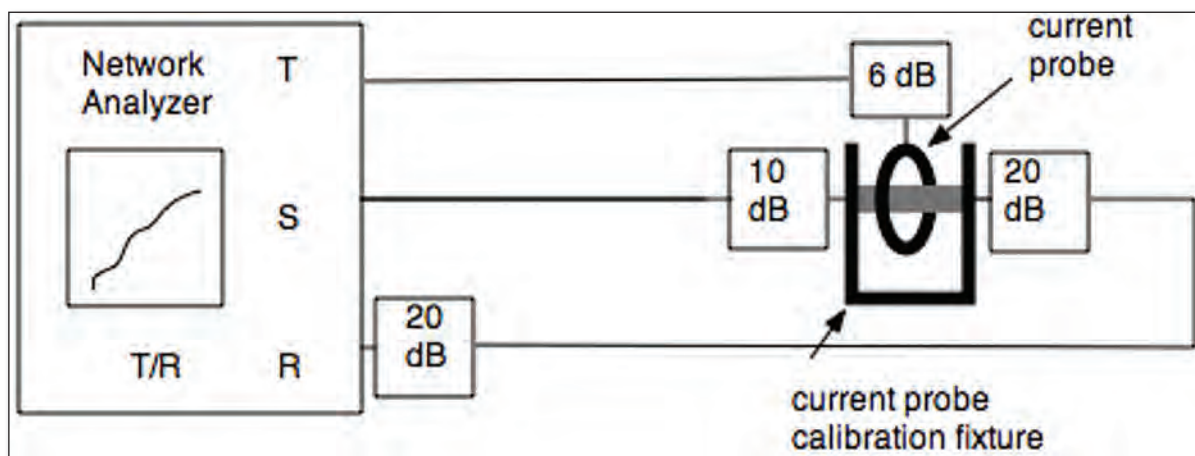

FIGURE 1: Current Probe Calibration - T/R ratio is the transfer impedance in dB Ohms.
Various models of current probes based on transformer action are used from frequencies as low as 1 Hz to at least 1 GHz. All these probes may be calibrated as per Figure 1.
In Figure 1, the network analyzer source drives current through the calibration fixture, which the current probe senses. The attenuator values (excepting the 10 dB pad on the input side of the calibration fixture) are so chosen that the ratio of the current probe output (T-port) to the reference (R) input is directly the transfer impedance in dB Ohms, with no data reduction required. They also perform impedance-matching functions reducing vswr-related errors at higher frequencies. The 10 dB pad is solely for impedance matching and vswr-reducing, and need not be included if unnecessary, typically at audio frequencies where extra signal level into the calibration fixture is required. Its value does not affect the transfer impedance calculation.